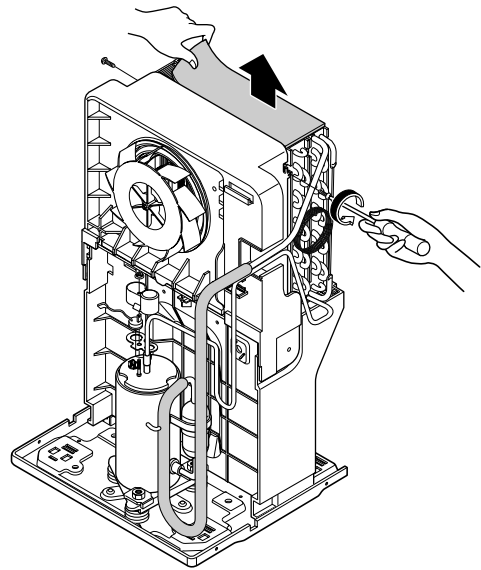

Figure 17
3. After discharging the refrigerant completely, remove 2 screws between the shroud and H/E. (See Figure 17)